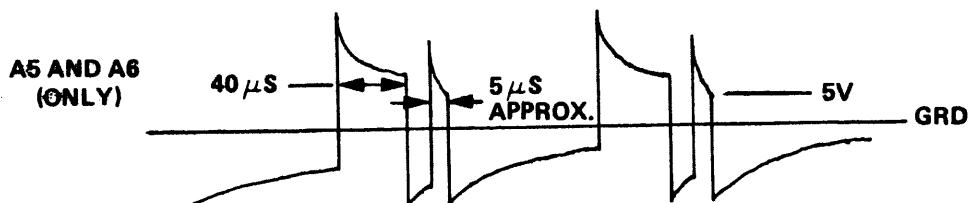

Figure 4-10. Commutating SCR Gate Driver Pulses
- d. Verify that the gate driver waveforms of commutating SCR's A5 and A6 appear as shown in figure 4-10. Use test jacks A5 and A6, along with the corresponding REFERENCE jacks.